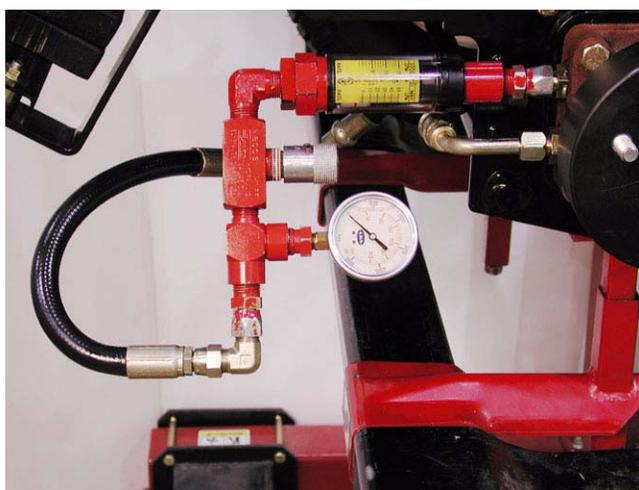

Figure 4.12
- 4.12. Remove the plug from the line coming from the outboard port on the hydro pump. Use the 18" test kit line to connect the pressure gauge end of the hydraulic test kit to the line coming from the hydro pump. See Figure 4.12.